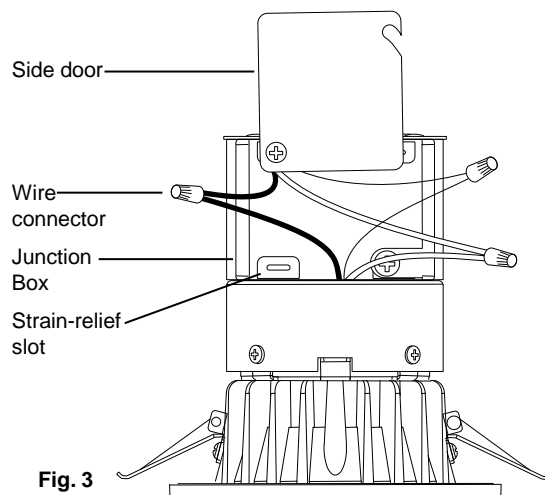

Fig. 3
4. Open the side door of the junction box. If you are using a BX cable, remove one of the round knockouts located on the top or sides of the junction box. If you are using NM cable, remove a rectangular knockout on the back of the junction box. Insert about 5 or 6 inches of the NM cable into the junction box through one of the provided strain-relief slots. (Fig. 3)
5. Remove at least 3" of the cable's outer sheath and remove the plastic or paper over-wrap. Strip approximately 3/8" of insulation from the ends of all supply wires. Using the wire connectors, make the following wire connections within the junction box (Fig. 3):